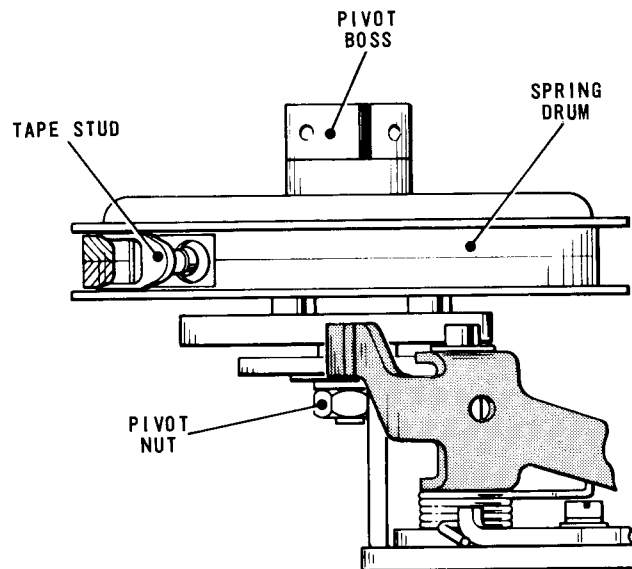

Fig. 4.45 CARRIAGE RETURN SPRING DRUM
- 52.1 Slide the typehead to its extreme right-hand position. Apply a tension gauge to the spring drum tape stud, Fig.4.45, and check that there is a force of  $4\frac{1}{2}$  - 5 lb (2.04 - 2.27 kg) acting at the periphery of the drum.